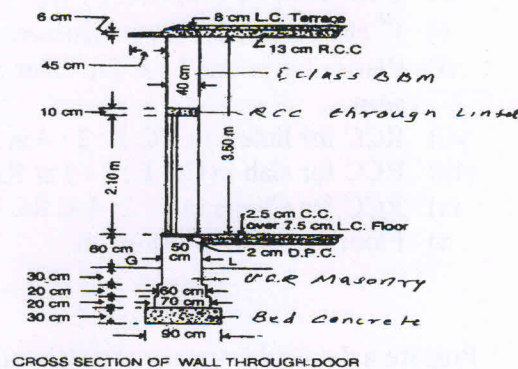

Fig.Q2
- 2** Prepare a detailed estimate of a slab culvert of 1.5m span and 4.00m roadway from the given drawing (Refer Fig. Q2). The general specifications are as follows : foundation concrete shall be of cement concrete 1 : 3 : 6 with stone ballast and coarse sand masonry shall be of first class brick work in 1 : 4 cement coarse sand mortar. Slab shall be of RCC 1 : 2 : 4 with reinforcement as per drawing. Exposed surface of brick masonry shall be cement pointed 1 : 2. Road shall be provided with 10 cm thick wearing coat of 1 : 2 : 4 cement concrete. Work out only quantities.